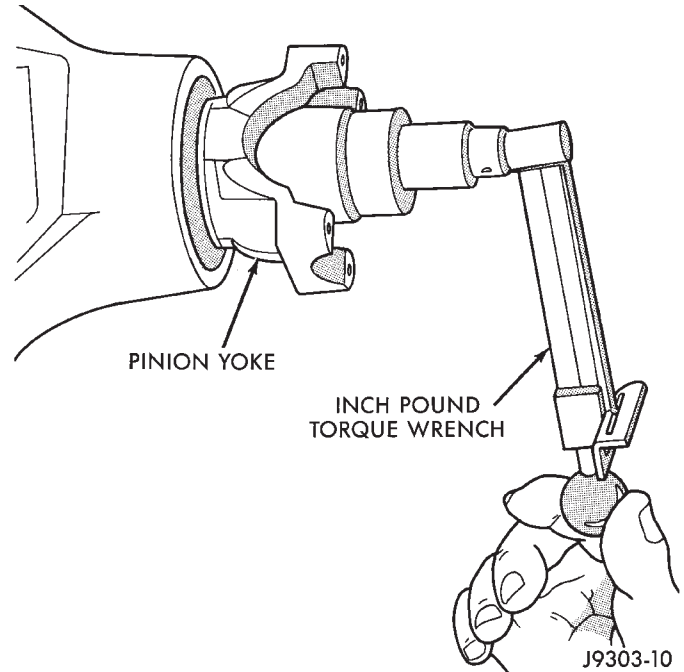

Fig. 9 Check Pinion Rotation Torque
(4) Install a socket and inch-pound torque wrench on the pinion nut.
(5) Rotate the shaft with the torque wrench and note the torque (Fig. 9).